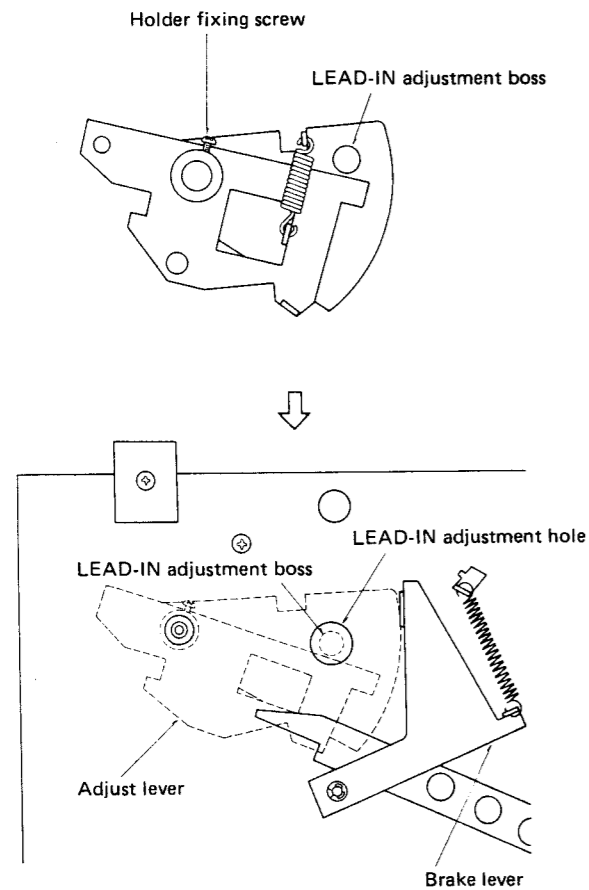

Fig. 4
- (1) Fit the tonearm to the chassis base using three screws.
- (2) Attach the adjustment lever to the tonearm shaft. As the position of the adjustment lever will affect the LEAD-IN position, be sure to attach it properly, referring to the Fitting Diagram (Fig. 4). Improper attachment of the adjustment lever may lead to inability to perform LEAD-IN adjustments properly.
- (3) Connect the output lead wires of the tonearm.
- (4) Attach the lifter and spring using screws removed previously.
- (5) Attach the arm drive lever using the E-rings.
Note: When attaching the adjust lever to the tonearm, attach it so that the LEAD-IN adjustment boss which is provided on the adjust lever will be positioned in the centre of the LEAD-IN adjustment hole of the chassis base, as illustrated in the drawing. (Fig. 4)